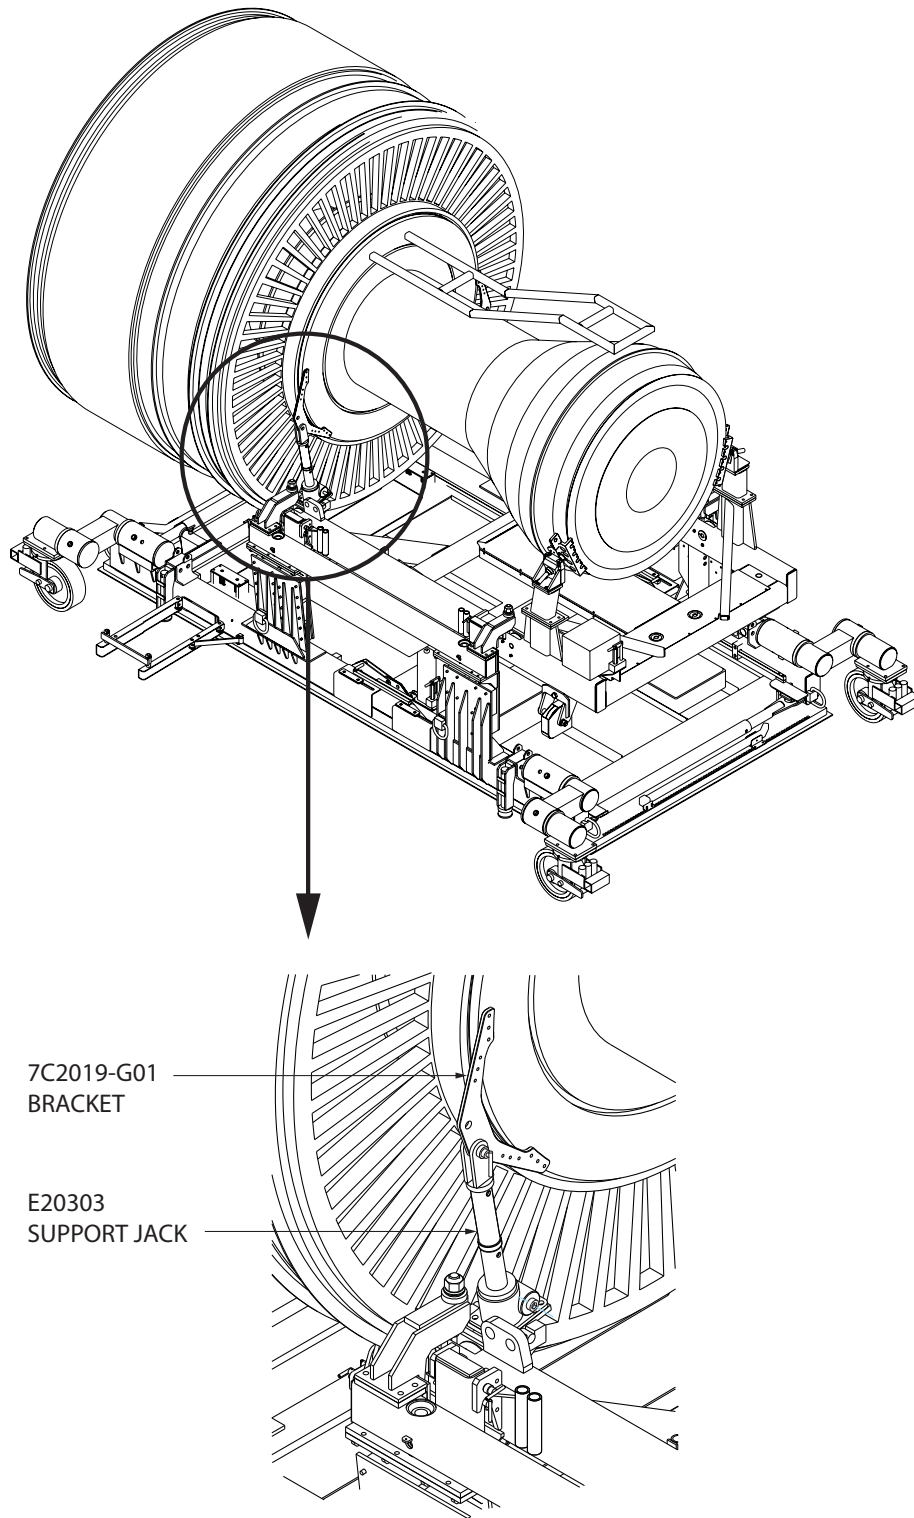

Figure 5.4-1 Change of Hands Support Operation
- 2) Remove the E20303-S01/-S02 change of hands support jack assembly from the aft storage box and install on the supports located at the inside forward corners of the cradle frame. Configure the jack assembly with 10-inch spacers installed if the cradle aft mount spacers are installed (See Figure 5.4-1).
- 5) Raise the engine to unload the forward fan case GSE support pins for removal by adjusting both jacks simultaneously. Once the E20301-P01/-P03 mount pins are free remove both pins and mounts from the support saddles (See Figure 5.4-1).